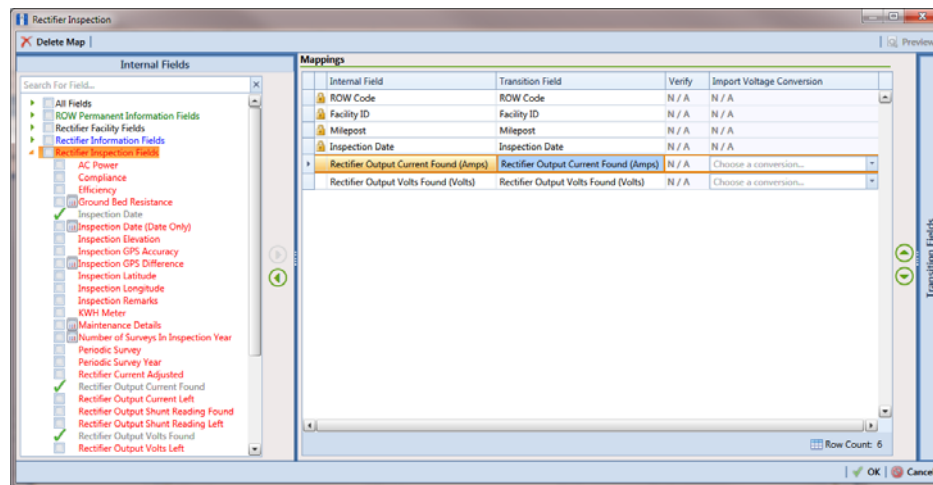

Figure 10-24. Export Field Selections
- a Click **Edit** in the *Maps* group box to open a field selection dialog box (Figure 10-24, page 478).
- b Click the toggle arrow  for a field category listed in the *Internal Fields* panel to view a list of available fields. In the following example, *Rectifier Inspection Fields* is selected (Figure 10-24).